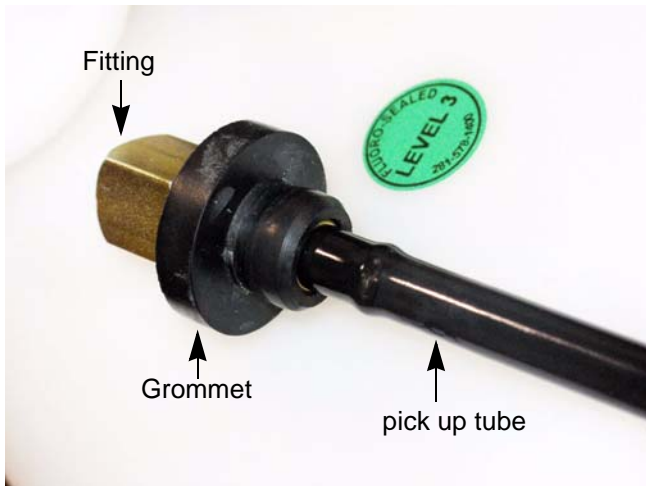

Figure 2.9
6. Inspect the pick up tube. See Figure 2.9.